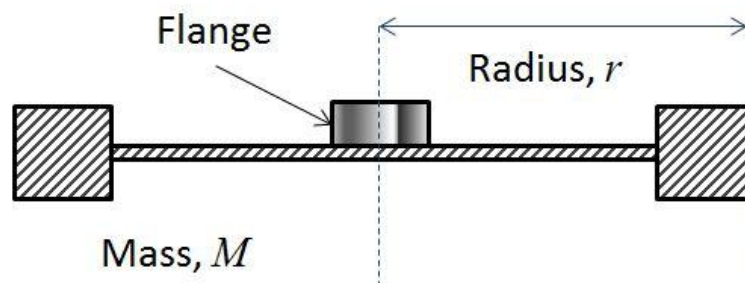

Figure 6 A ring flywheel
- A flywheel that has a thin plate in the middle and most of its mass as a ring around the outside (*Figure 6*):